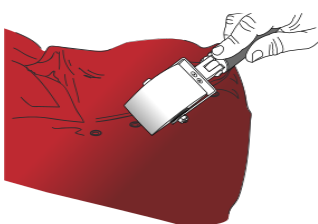

Figure 22
- › Then slide the ROLLRIV over the film to make it adhere to the entire rivet surface. Press it all around the rivet using a squeegee or your thumb. (FIG. 22)